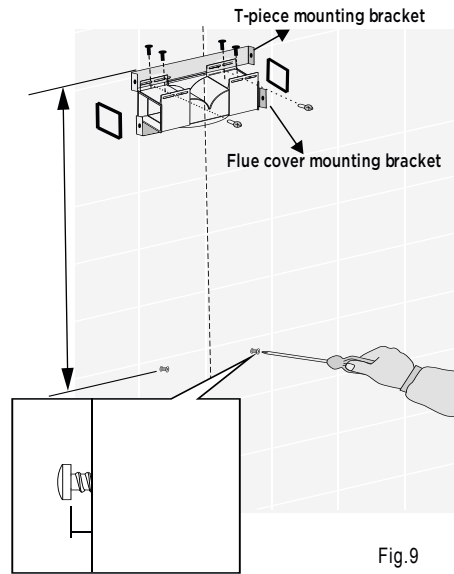

Fig.9
- Install flue cover wall mounting brackets with suitable fasteners. Suitable fasteners must be used for rangehood mounting points. Refer to Fig.5 for dimensions. If installation is for recirculation mode refer to Item 6a and Fig.9.
#### 6a. Recirculating mode (Fig.9)